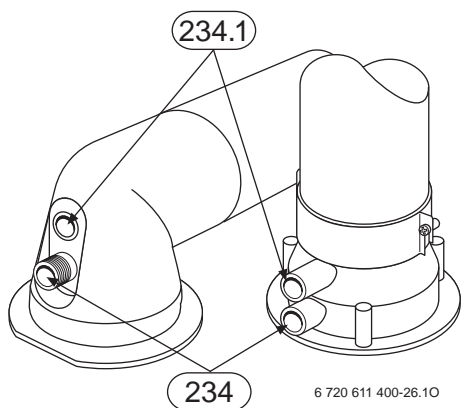

Fig. 35
- ▶ Remove sealing plug from combustion air testing point (234.1, fig. 35).
- ▶ Remove sealing plug from flue gas testing point (234, Fig. 35).